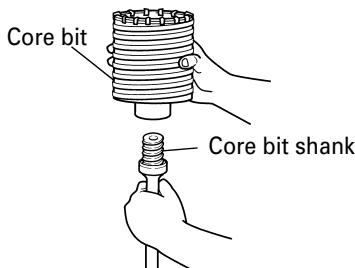

Fig. 13
- (1) Mount the core bit to the core bit shank. (Fig. 13) Lubricate the thread of the core bit shank to facilitate disassembly.